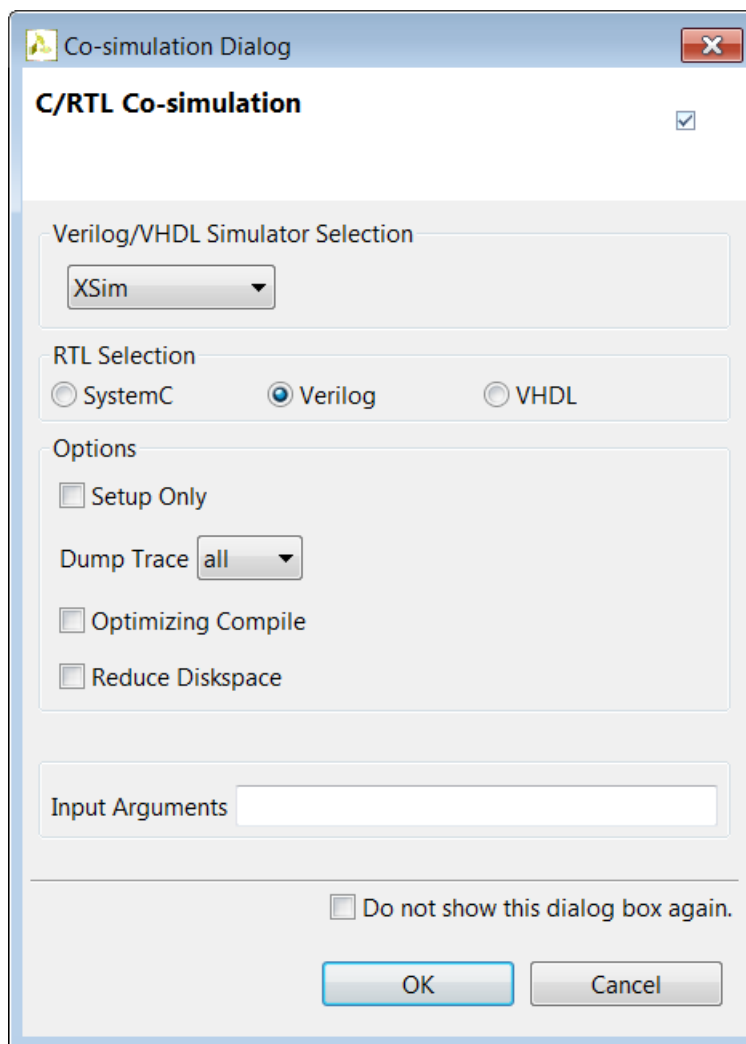

Figure 175: Cosimulation Dialog Box For Lab 2
- a. Select **Xsim** from the **Verilog/VHDL Simulator Selector** (Figure 175).
- d. Activate the **Dump Trace** drop-down menu and select the **all** option, to have the options shown in Figure 175.